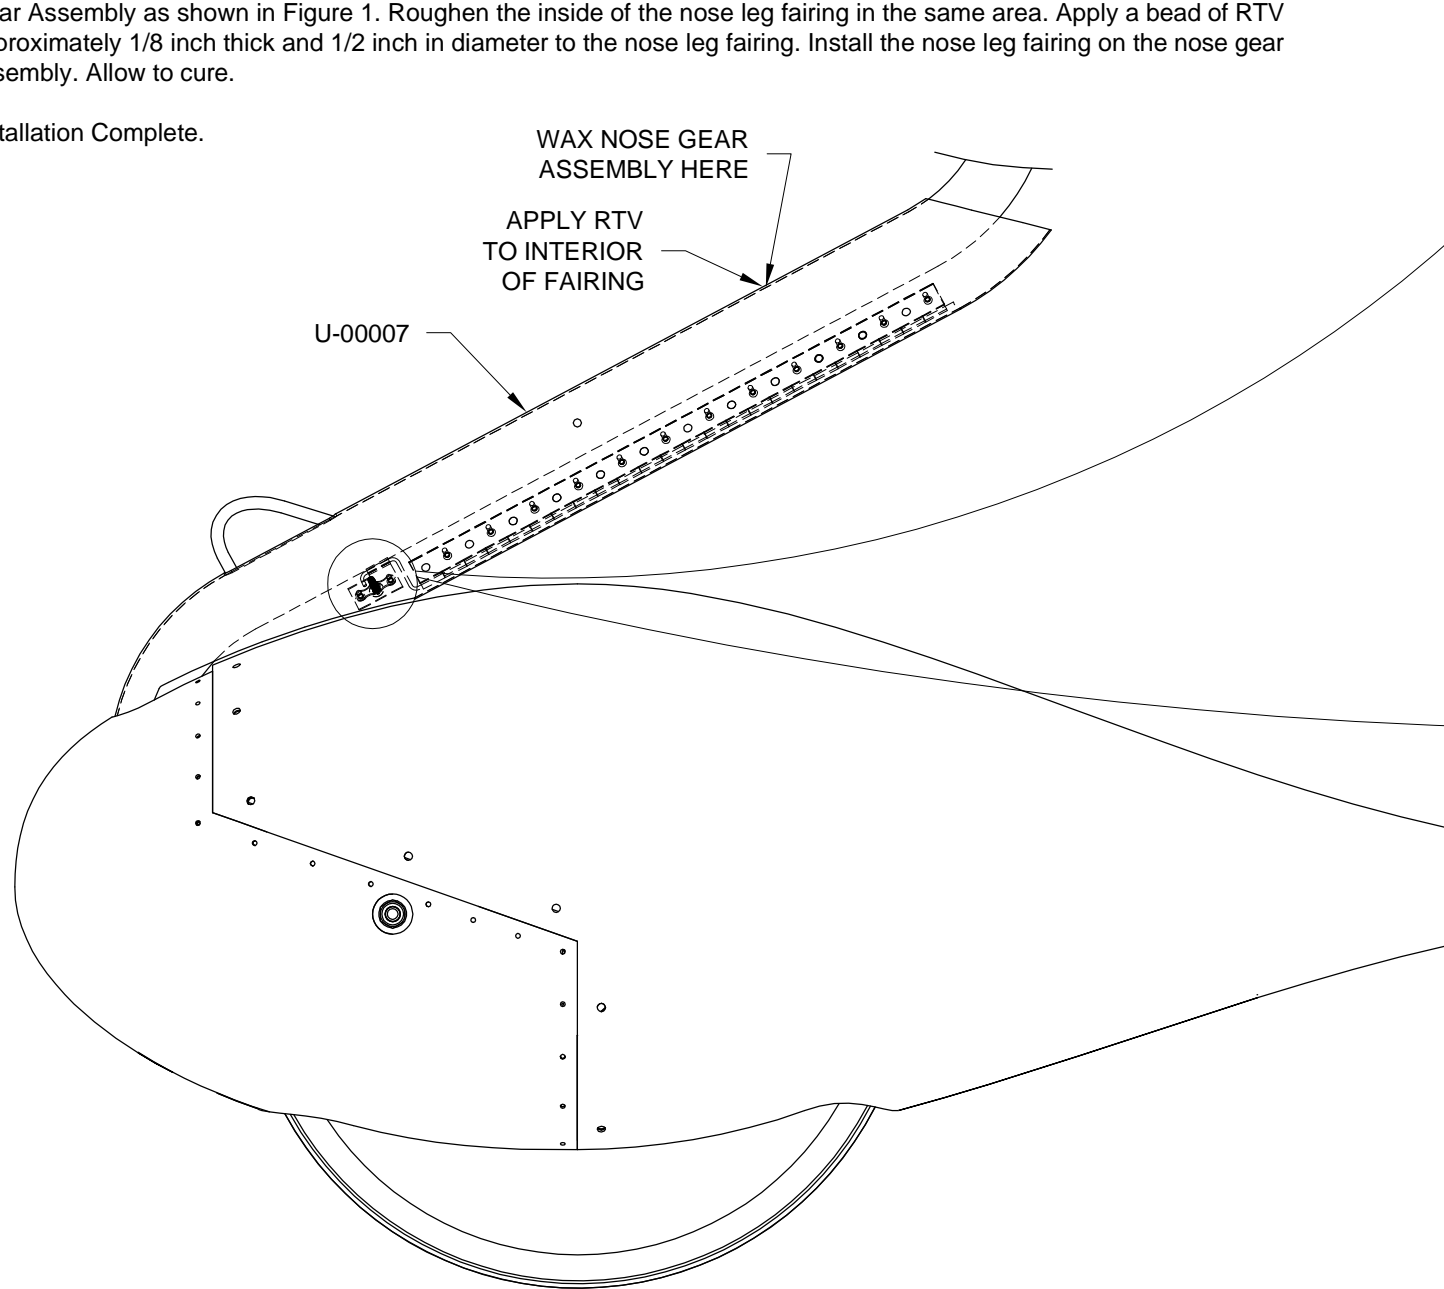

FIGURE 1: HINGE PIN RETAINER LOCATION
Step 1: Bend one end of the provided hinge pin to create U-00007C Hinge Pin. The pin should fit into the loop of the U-00007D Hinge Pin Retainer as shown in Figure 1. Dimensions given in Figure 2 are for reference only, adjust as required to achieve a good fit.
Final-Drill the nose leg fairing #27 for the screw called out in Figure 1. Install screw through nose leg fairing and into hinge pin retainer and check the length of hinge protruding from the other end of the nose leg fairing hinge. Trim pin as required.
Step 3: Remove the U-00007 Nose Leg Fairing and apply wax to an approximately 1 inch diameter area of the WD-1201 Nose Gear Assembly as shown in Figure 1. Roughen the inside of the nose leg fairing in the same area. Apply a bead of RTV approximately 1/8 inch thick and 1/2 inch in diameter to the nose leg fairing. Install the nose leg fairing on the nose gear assembly. Allow to cure.